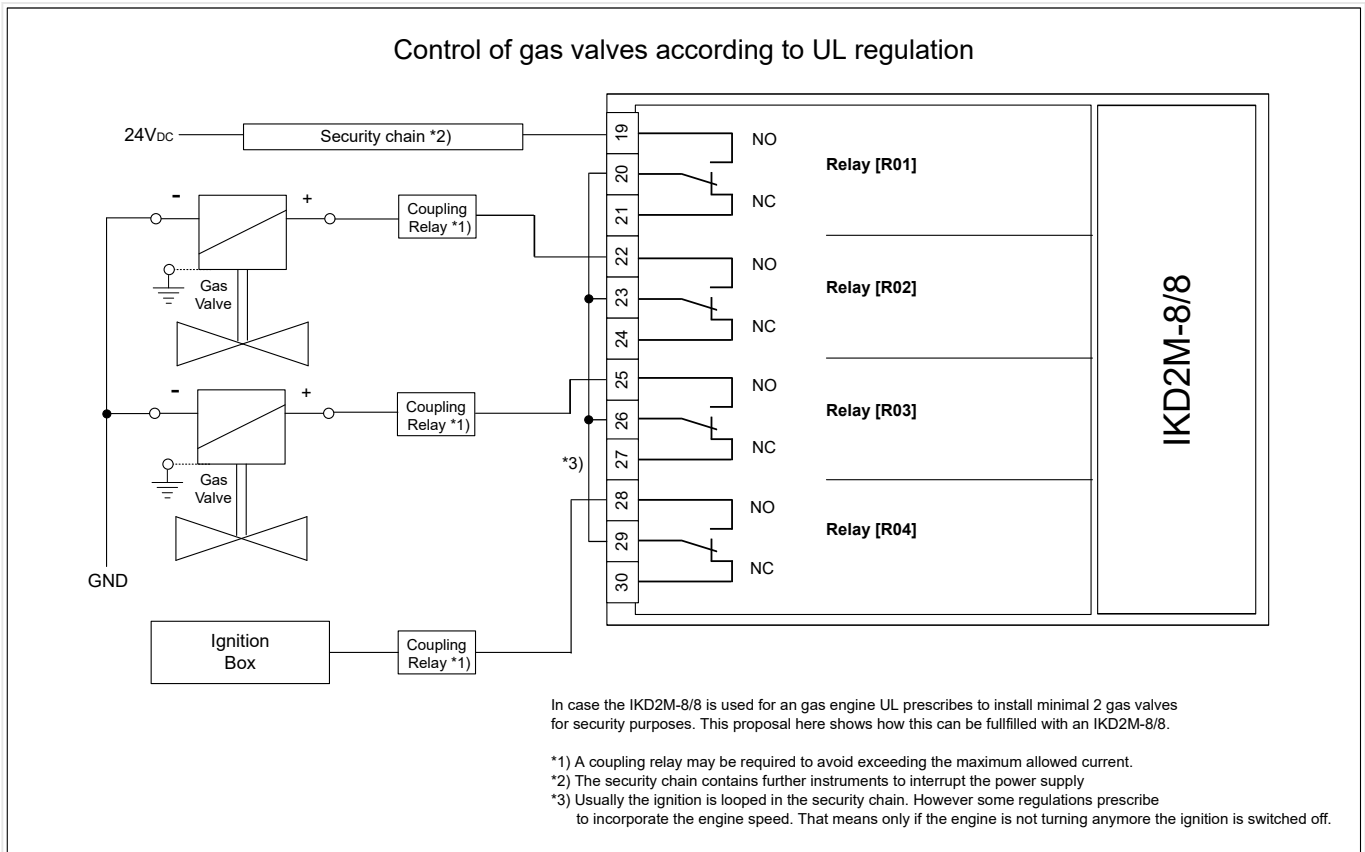

Fig. 9: Control of gas valves according to UL regulation
- Relay 1 must be connected in series to the relay outputs used for FUEL and GAS VALVE coupling relay (see figure below ↪ Fig. 9)